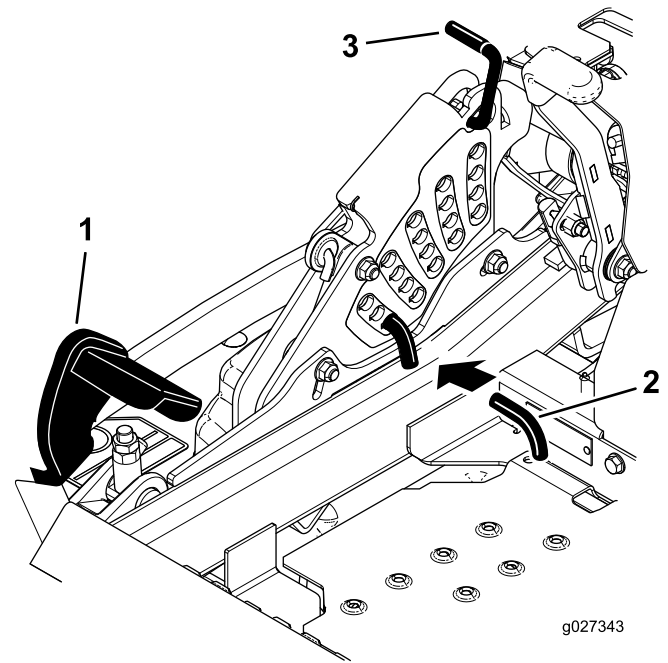

Figure 87
5. Push the deck lift pedal all the way forward and the deck will latch at the 5 1/2 inch (14 cm) transport position (Figure 87).